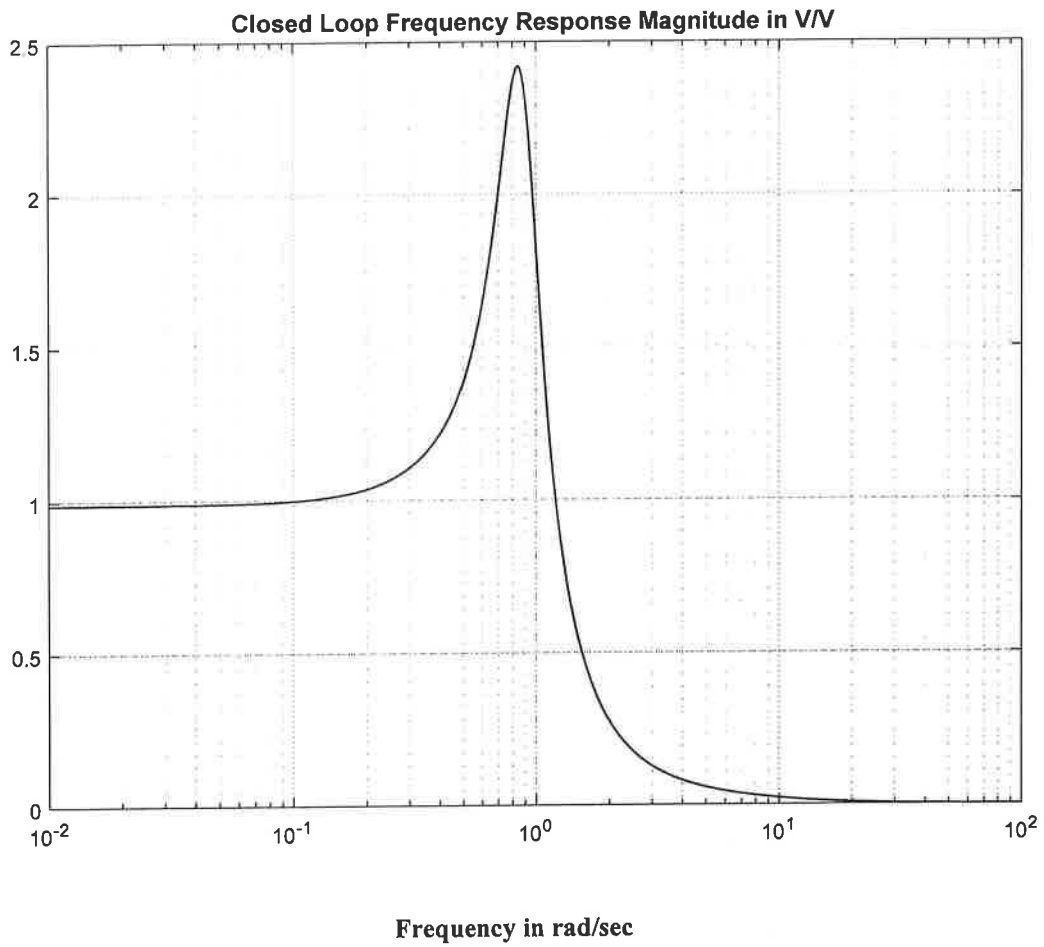

Figure Q5.2 – Closed Loop Frequency Response (Magnitude) Plot of $|G_{cl}(j\omega)|$
- 2) (5 marks) Determine the second order dominant poles model, $G_{m2}(s)$, based on the Closed Loop frequency response. The magnitude plot of $|G_{cl}(j\omega)|$ is shown in Figure Q5.2.